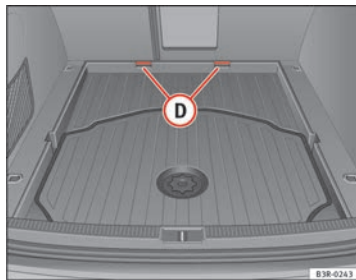

Fig. 125 Floor panel removed for increased luggage space
- Pull the complete floor panel towards the rear of the vehicle so it comes out of the retainers (D) ⇒ fig. 125.